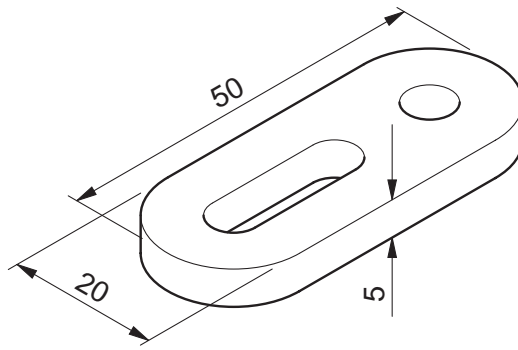

Fig. 2
- 2 (a) Fig. 2 shows a component to be worked by hand in BDMS.